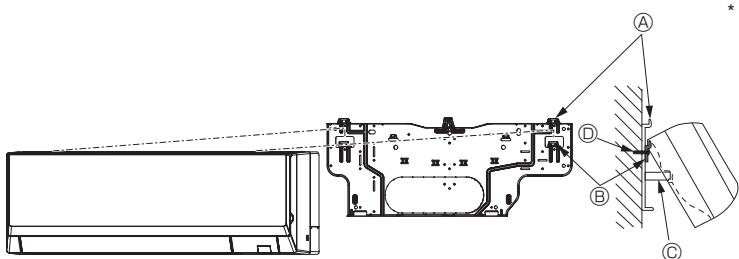

Fig. 3-12
- When the indoor unit cannot be hanged and lifted up with the regular hook (the dimension of 2.1. ⑧ (the clearance between the ceiling and the unit) is 75 mm, 2-61/64 inch or less), hang the unit on the lower hook for left piping. (Fig. 3-12)
(Fig. 3-12)